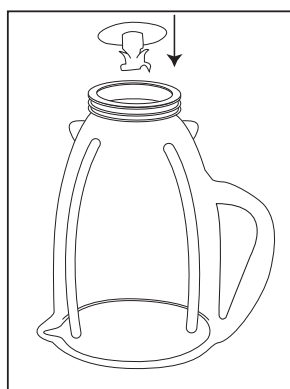

FIGURE 3
- Place blade into jar. (Figure 3)